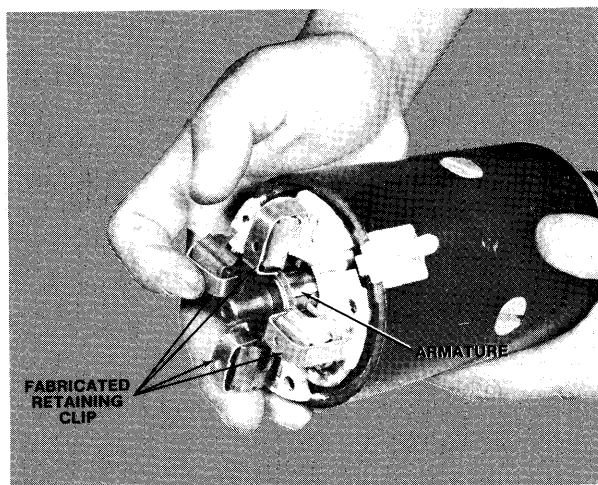

Figure 5—Installing Armature
- E. Install armature in frame — field assembly as shown in figure 5. Once armature is past brushes, remove retaining clips.